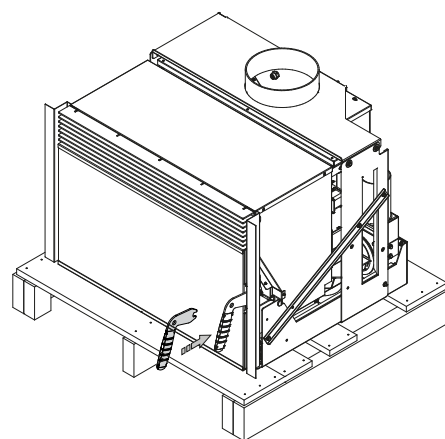

Fig. 6.1.0
2. Insert the cold handle supplied into the door closing lever mechanism Fig. 6.1.0. on receipt of the machine, with it still fixed to the pallet.